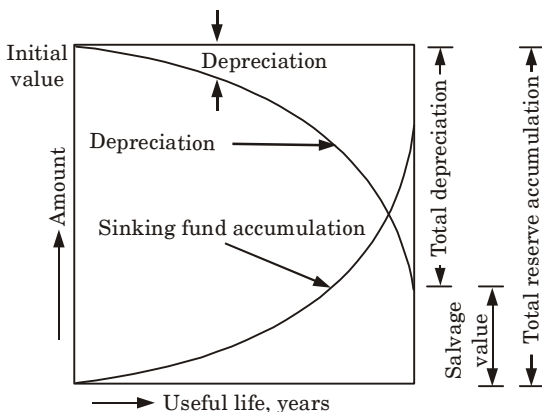

Fig. 3.3.2. Sinking fund depreciation.
- The sinking fund method is illustrated in Fig. 3.3.2.